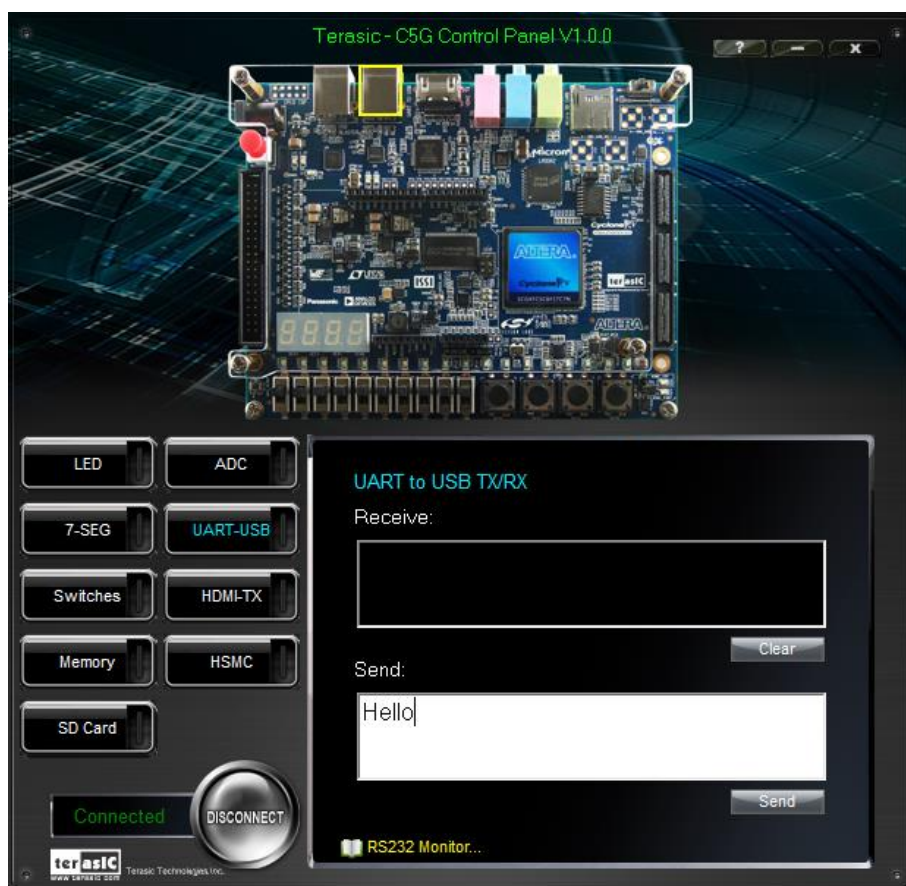

Figure 2-9 UART to USB Serial Communication
1. Choosing the UART-USB tab leads to the window in **Figure 2-9**.